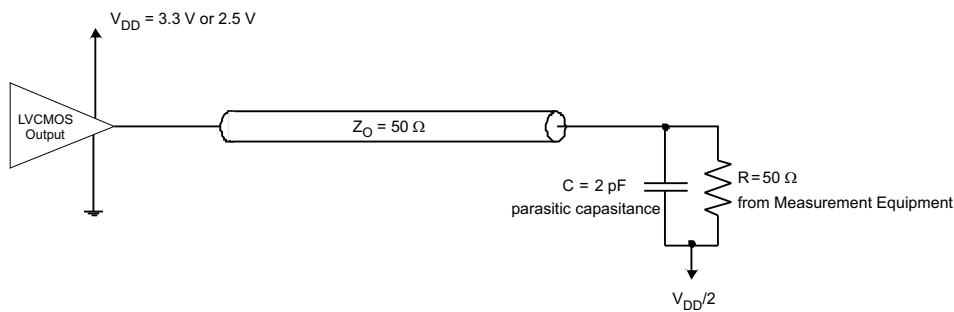

Figure 1. Test Load Circuit
(1) All typical values are at respective nominal VDD. For switching characteristics, outputs are terminated to 50 Ω to VDD/2 (see Figure 1).